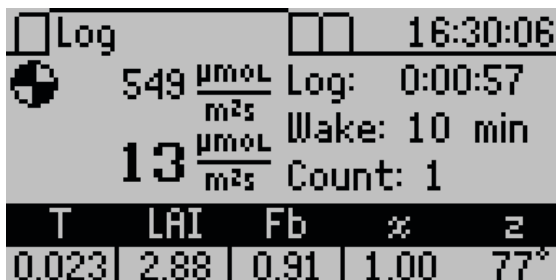

Figure 9 Log tab with measurements set every 1 min
- To activate the logging mode, press **ENTER**. The screen will begin to return data (Figure 9).